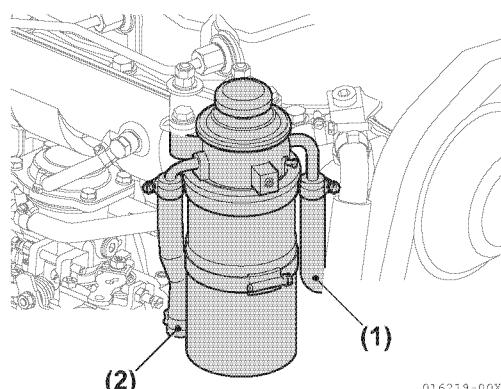

Figure 6-7
2. Disconnect the fuel hose from the fuel fine filter inlet (Figure 6-7, (1)).
6. Repeat procedure at the outlet end of the fuel fine filter (Figure 6-7, (2)).